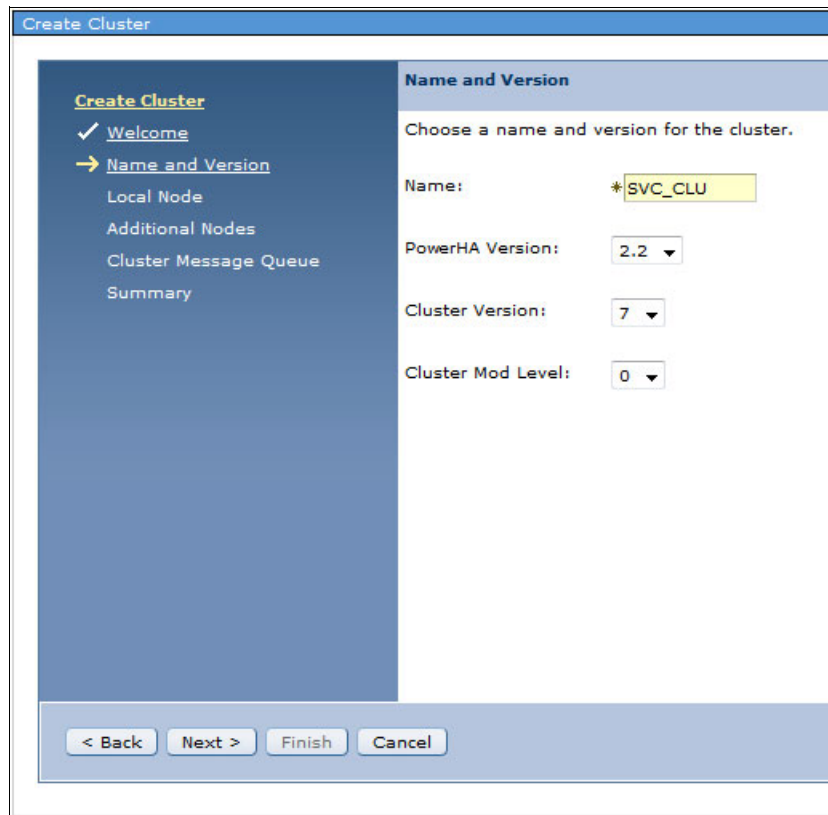

Figure 4-8 Cluster creation, specifying the cluster name and version
5. As shown in Figure 4-8, on the Create Cluster Name and Version panel, you must provide a name for the cluster. With current fixes installed, the PowerHA version is 2.2. Click **Next**.